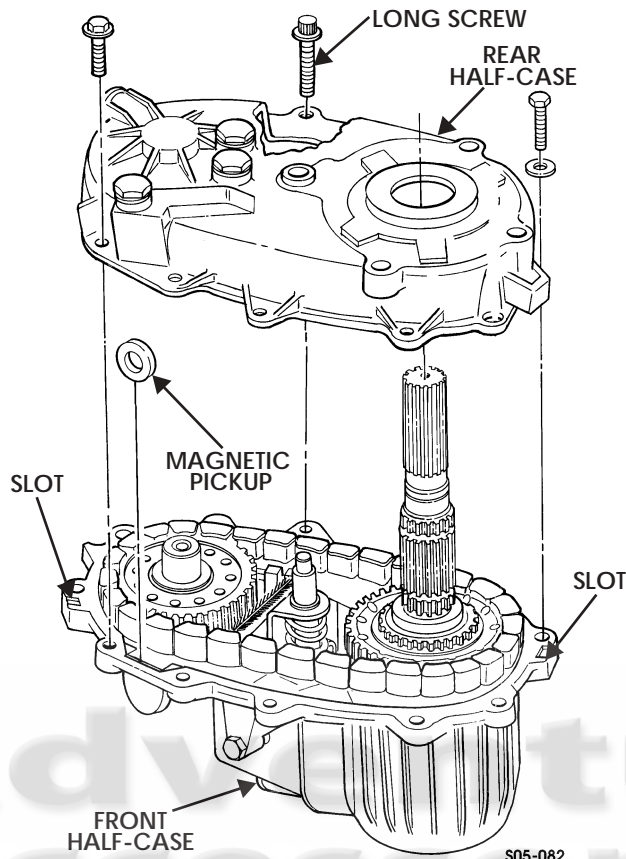

Figure 5-135: Half-cases
12. Remove two screws and washers securing ends of rear half-case to front half-case (Figure 5-135).